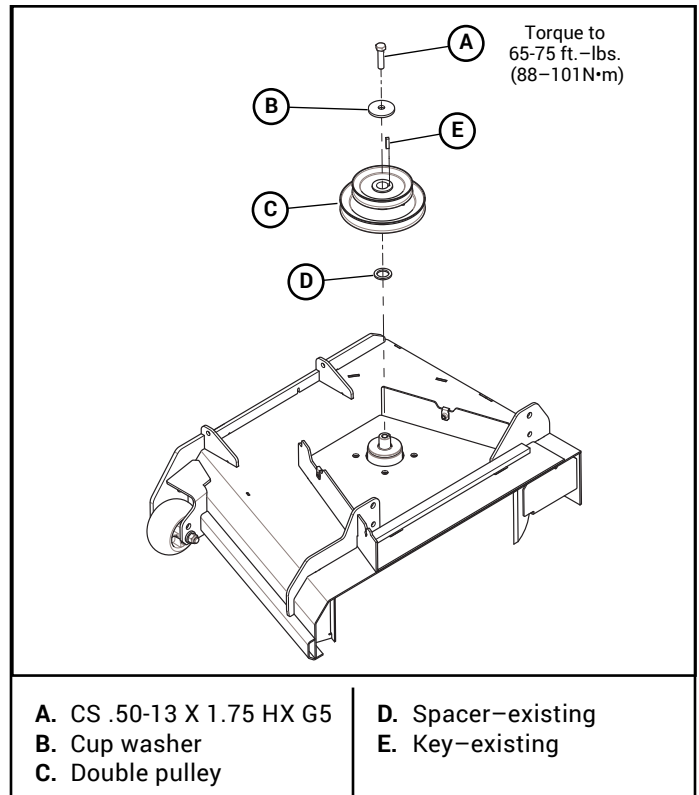

Figure 3-15
5. Replace the pulley with the double pulley and place the new cup washer between the head of the new bolt and the drive pulley. Thread the cup washer and bolt assembly into the spindle shaft. Torque the bolt to 65–75 ft.-lbs (88–101N•m). Figure 3-15